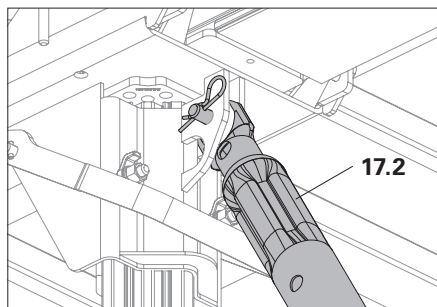
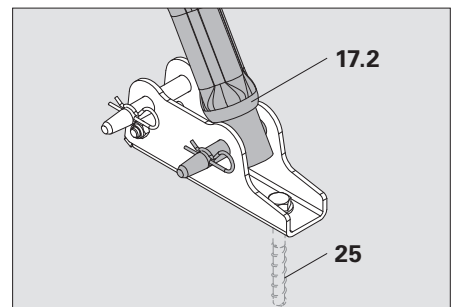

Fig. A4.04a
Fig. A4.04b
- Push-Pull Prop RS (17.2), tension- and compression-proof, with Bolt Ø 16 x 42, Bolt Ø 20 x 140, Cotter Pin 4/1 and Base Plate-2 for RS (18).
- (Fig. A4.04a + Fig. A4.04b)